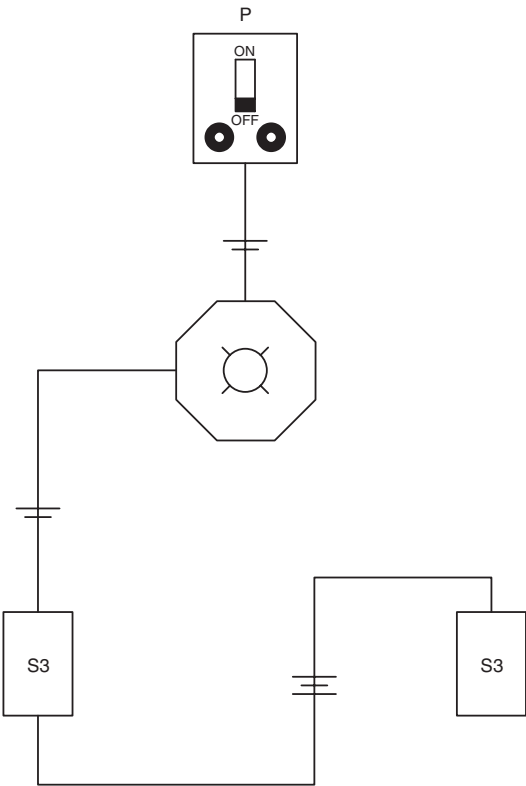

Figure 8-25 Second circuit for connection.
7. Reposition the two- and three-conductor cables as shown in Figure 8-25.